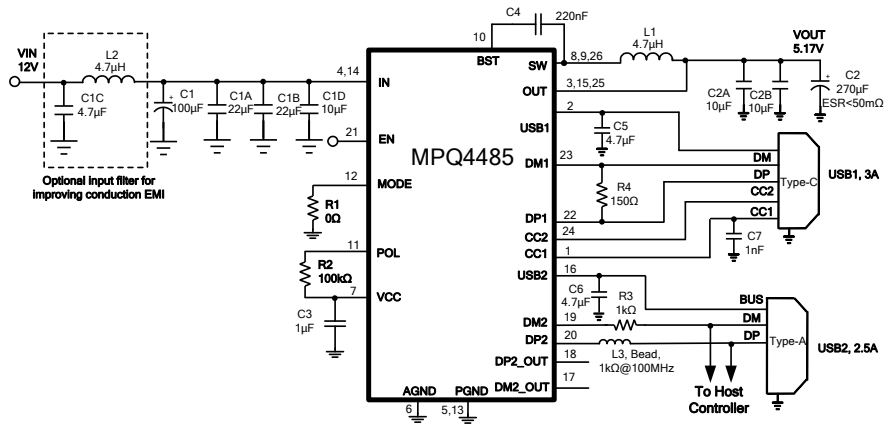

Figure 13: USB1 5V @ 3A Type-C Mode, USB2 Type-A Port with CDP Mode (10) (11)
- 9) The recommended layout is based on setting USB1 to DCP mode and USB2 to CDP mode (see the Typical Application Circuits in Figure 13 to Figure 15).